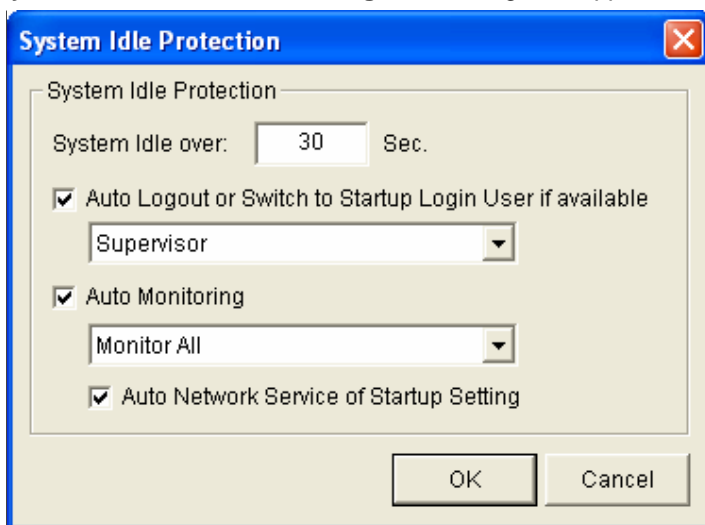

Figure 1-39
4. In the System Idle Protection dialog box (Figure 1-39), select **Auto Logout or Switch to Startup Login User if available**, and then select **Supervisor** or **Supervisor, Power User** from the drop-down list.
1. In the System Idle Protection dialog box (Figure 1-39), select the **Auto Monitoring** option, and select **Monitoring All**, **Schedule Monitoring**, **I/O Monitoring** or **Camera Monitoring** from the drop-down list. When Monitoring All is selected, both **I/O Monitoring** and **Camera Monitoring** will be enabled.